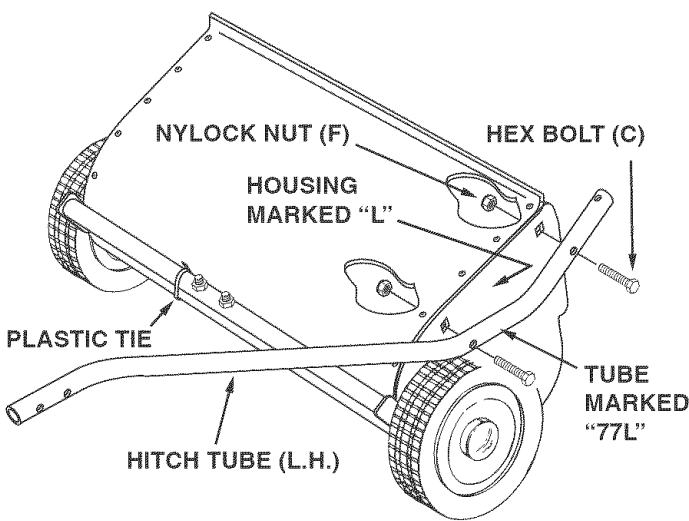
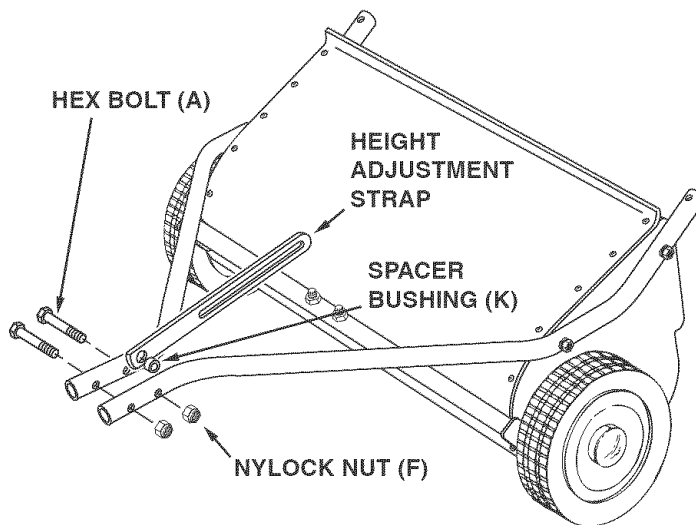
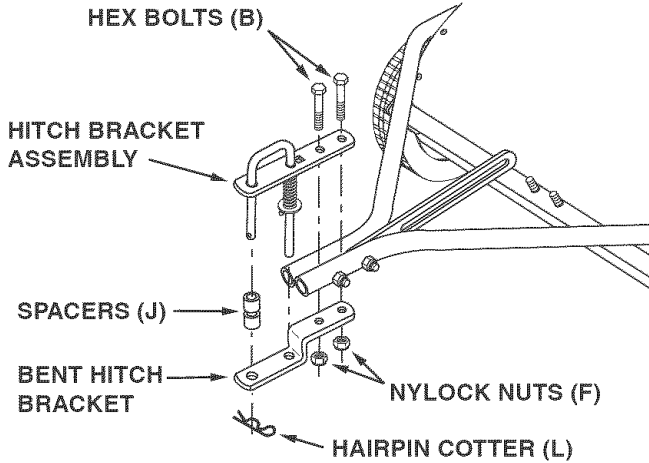

FIGURE 1
FIGURE 2
FIGURE 3
- (1) Scissors or knife
- The hitch tubes are stamped with a "77L" for the left tube and a "76R" for the right tube. The sweeper housing is marked with an "L" on the left side and an "R" on the right side. See figure 1.
- Hold the left hitch tube against the left side of the sweeper so that the "77L" on the tube faces away from the sweeper. Attach the hitch tube using two hex bolts (C) and nylock nuts (F). Repeat for the right hitch tube, but with the "76R" facing in toward the right side of the sweeper. **Do not tighten yet.** See figure 1.
- Remove the plastic tie that fastens the height adjustment tube to the front of the sweeper housing. See figure 1.
- Place the spacer bushing (I) into the hole in the height adjustment strap. Place the strap and bushing between the hitch tubes, aligning them with the rear hole. Fasten the hitch tubes together, with the strap and bushing between them, using two hex bolts (A) and nylock nuts (F). **Do not tighten yet.** See figure 2.
- If the tractor hitch is less than 10" above the ground, place the bent hitch bracket underneath the hitch tubes and place the hitch bracket assembly on top of the hitch tubes. Insert two hex bolts (B) through the brackets, with the rear hex bolt between the cross bolts in the hitch tubes. Secure the hex bolts (B) with two nylock nuts (F). See figure 3. **Do not tighten yet.**
- Assemble the two spacers (J) onto the hitch pin and secure the pin with the hairpin cotter (L). See figure 3.
- **Tighten** the four bolts in figure 1 that fasten the hitch tubes to the sweeper housing. Next, **tighten** the two bolts in figure 2 that fasten the ends of the hitch tubes together. Finally, **tighten** the two bolts in figure 3 or 4 that fasten the hitch brackets to the hitch tubes.